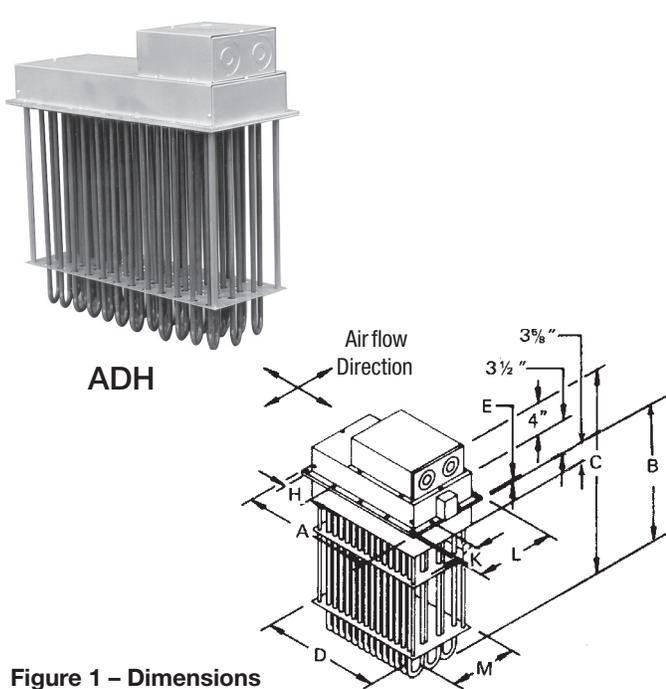

Figure 1 - Dimensions
2. Refer to Figures 1 and 2, layout "D" and "M" dimensions on duct mounting face established in step 1.